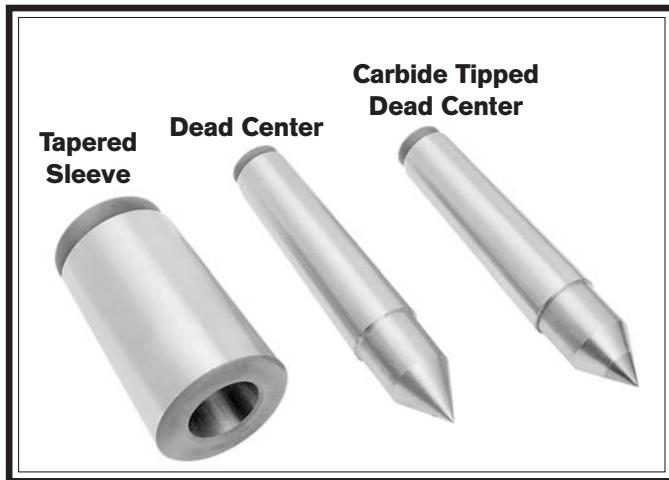

Figure 65. Tapered sleeve and dead centers.
**Figure 65** shows the dead centers included with the lathe. In addition, an MT#6-MT#4 tapered spindle sleeve is included for mounting centers in the spindle.